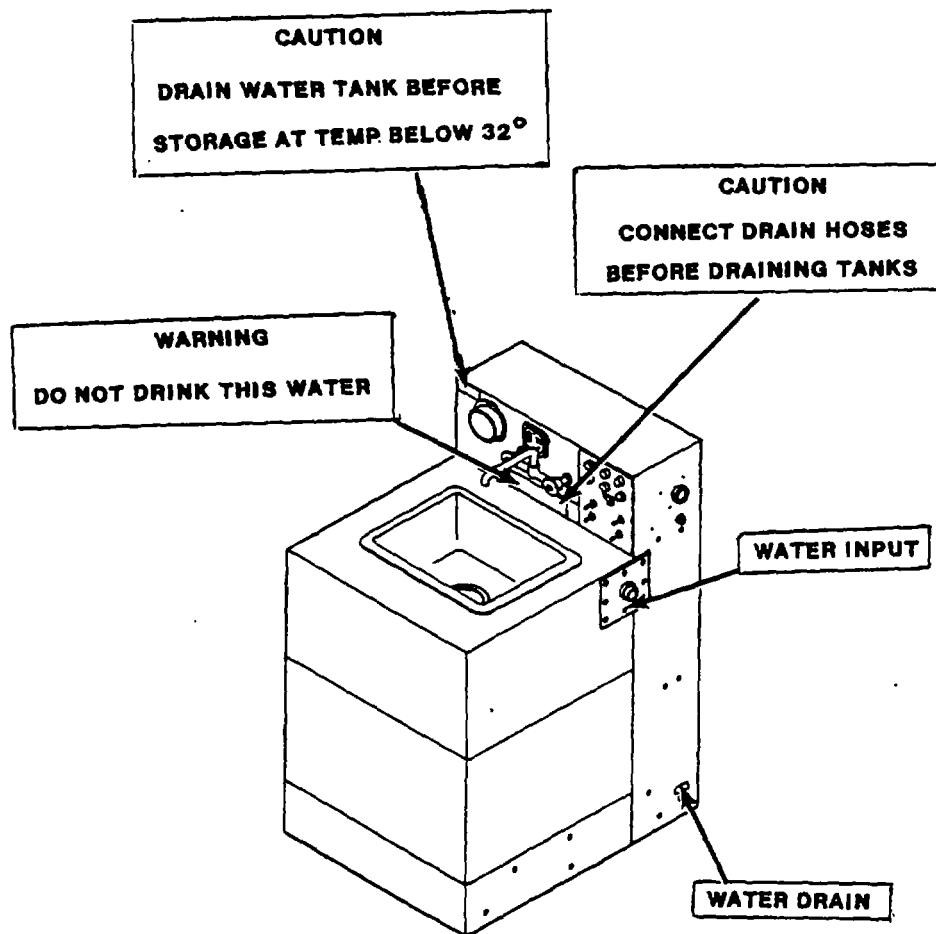

Figure 2-21. Sink Assembly Decal Locations
- b. Sink Assembly. Figure 2-21 below identifies decals on the Sink Assembly.